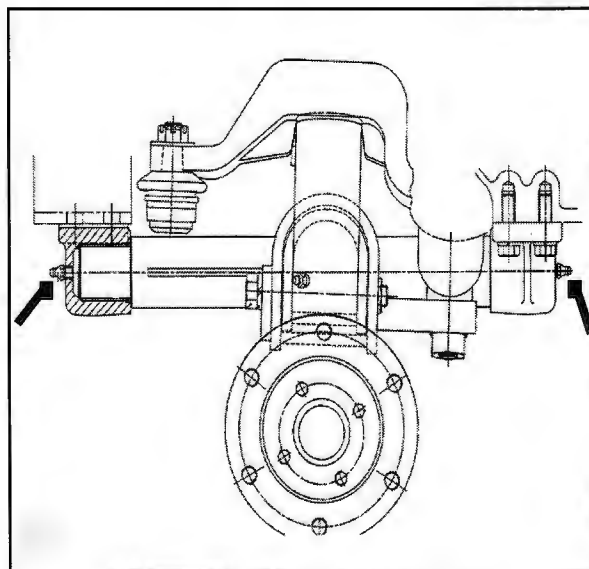

Fig. 37-4 - Front Axle Support
Using a grease gun, apply all purpose grease in the lubricating nipples (2). (See Fig. 37-4).